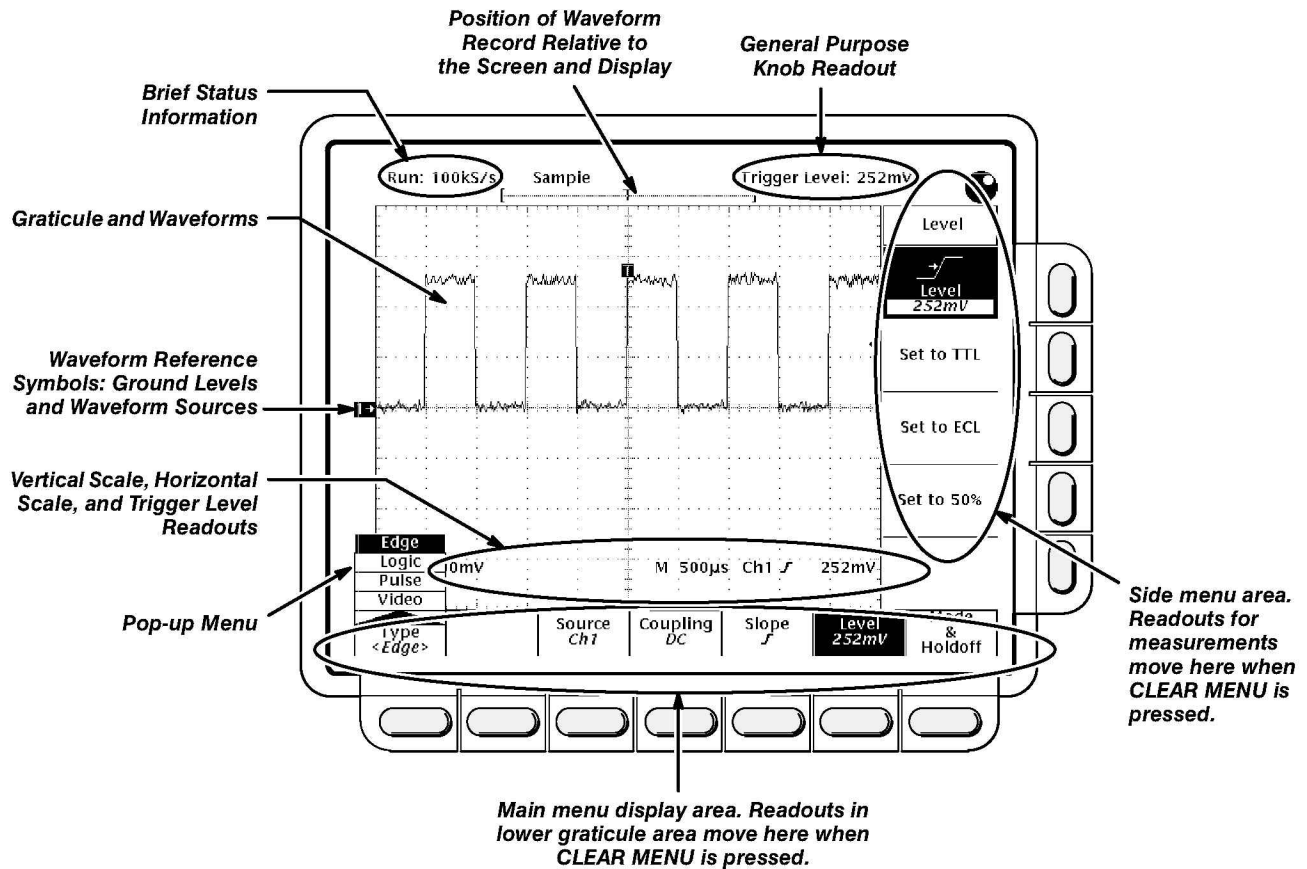

Figure 4-1: Map of Display Functions
- Refer to Figure 4-1: “Main menu” refers to the menu that labels the seven menu buttons under the display; “side menu” refers to the menu that labels the five buttons to the right of the display. “Pop-up menu” refers to a menu that pops up when a main-menu button is pressed.
- The vertical scale readout for the channel under test shows a setting of 200 mV, and a square-wave probe-compensation signal about 2.5 divisions in amplitude is on-screen. (See Figure 4-1 on page 4-3 to locate the readout.)